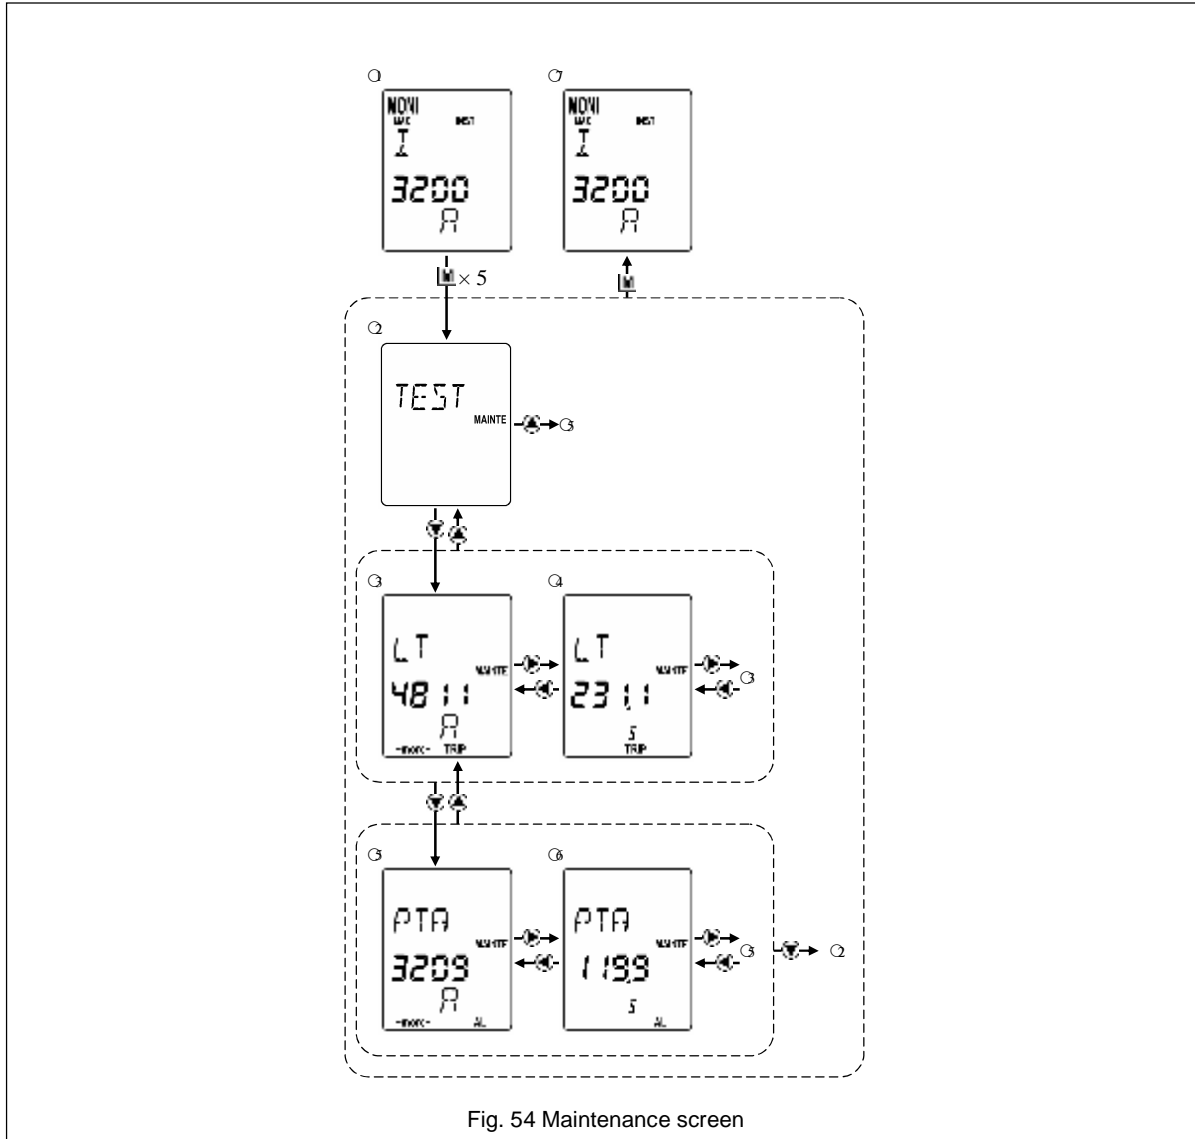

Fig. 54 Maintenance screen
- 4) Follow the procedure described in Fig. 54 and Table 30 to check the OCR for normal operation. (In NTR mode, the ACB does not operate, a trip/alarm event is not saved in the log and operation indication contact output is not provided).